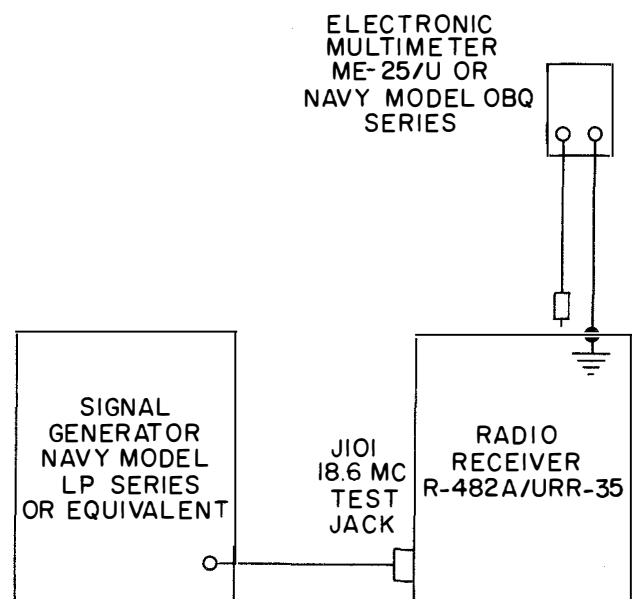

Figure 7-4. Bench Test Set-Up for I-F Alignment
c. ALIGNMENT OF I-F SECTION. (See figure 7-4.)
#### d. ALIGNMENT OF AGC TRANSFORMER T210. (See figure 7-4.)